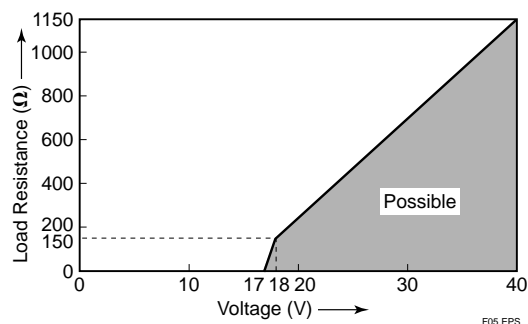

Figure 5 Supply voltage/ load diagram (ISC202G)
For the ISC202G, see figure 5.
- Power supply : Normal 24 V DC loop powered system, see Figure 5, 6, 7.